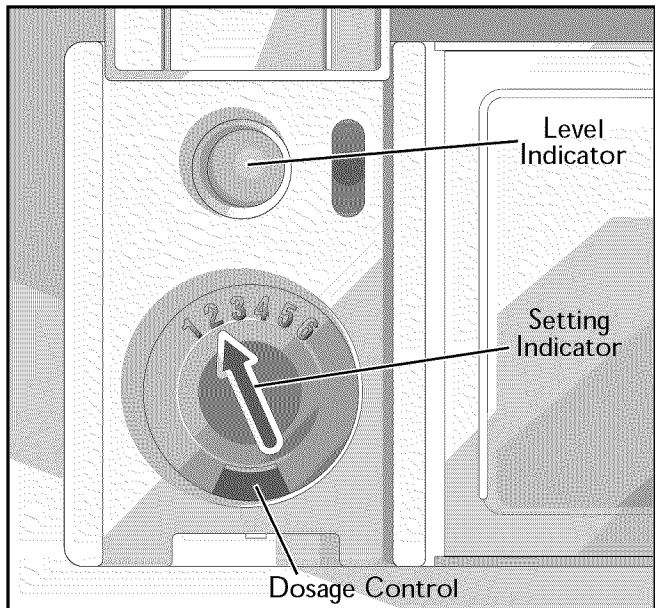

Figure 15. Rinse Aid Regulator
The rinse aid reservoir of the Thermador dishwasher is provided with a regulator calibrated from 1 to 6, **Figure 15**. This regulator controls the amount of rinse aid dispensed. The dishwasher leaves the factory preset to 3-1/2. This has been chosen as the average setting, however:
- Turn the setting indicator to desired setting, see **Figure 15**.